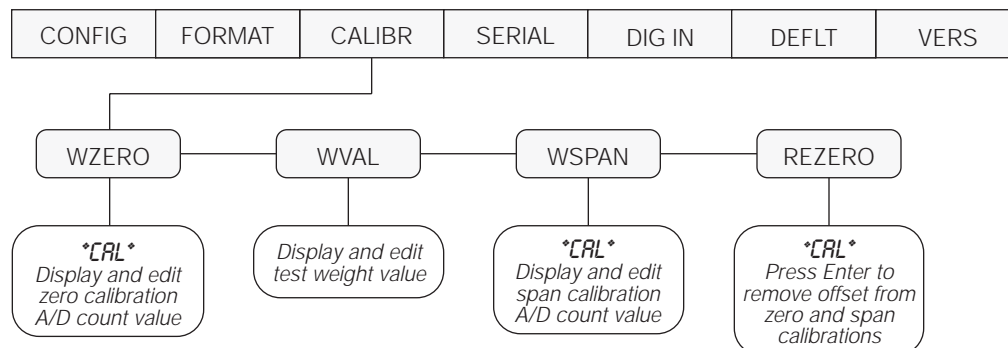

Figure 4-1. Calibration (CALIBR) Menu
2. Press the **RIGHT (UNITS)** button until the display reads *CALIBR* (see Figure 4-1). Press **ENTER (ZERO)** to go to zero calibration (*WZERO*).